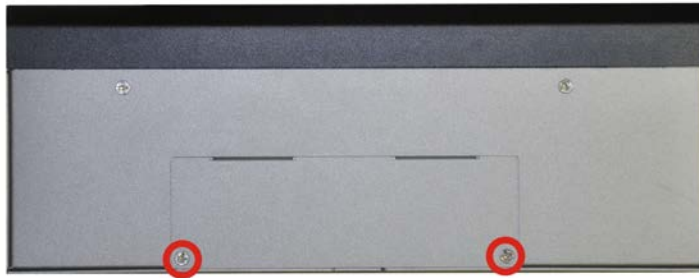

Figure 3-1: HDD Panel Retention Screws
- Step 1:** Remove the HDD panel by removing the two retention screws from the front panel (**Figure 3-1**).